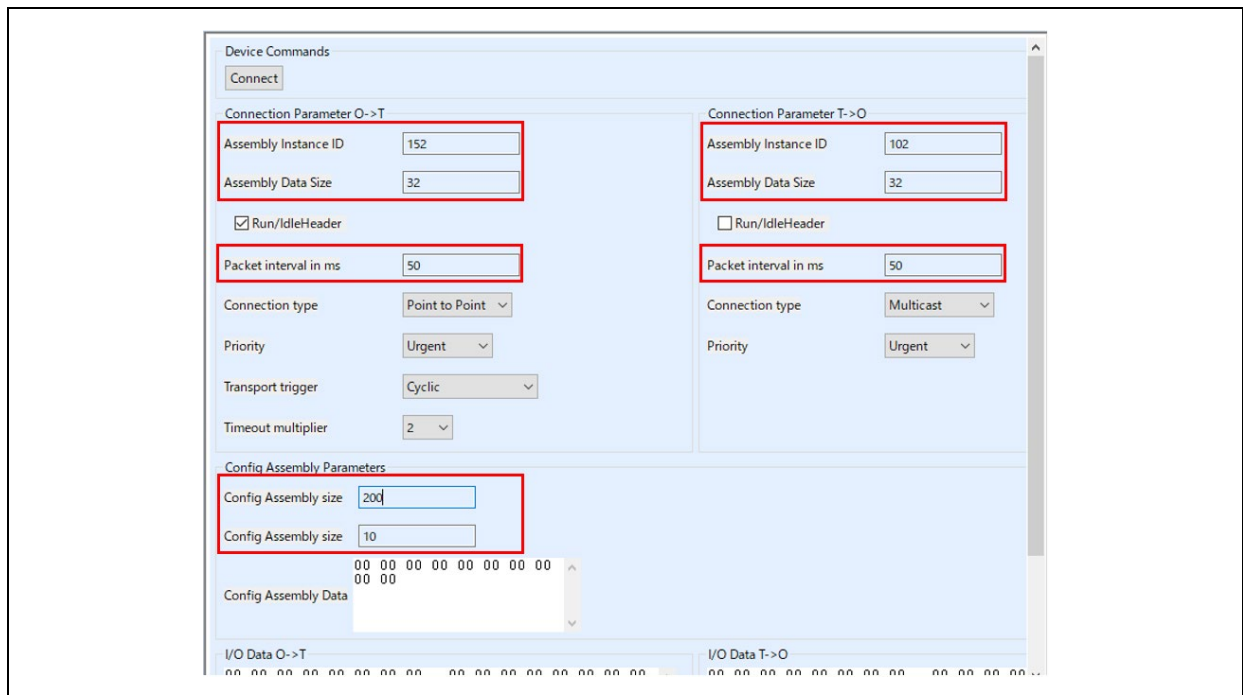

Figure 3-53 Mirror application(RPC) parameter
Refer to Table 3-6 and Table 3-7 to set the connection parameters. Figure 3-53 shows an example of a communication configuration for Mirror Data Reception_1 (152) and Mirror Data Transmission_1 (102).